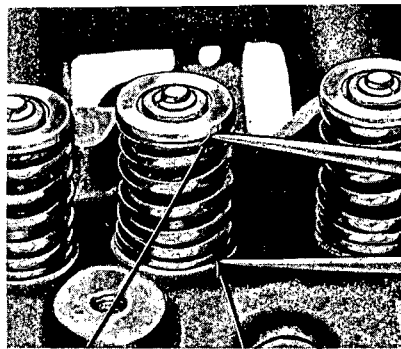

FIG. 27—Valve Spring Assembled Height
5. Measure the assembled height of the valve spring from the surface of the cylinder head spring pad to the underside of the spring retainer with dividers (Fig. 27).